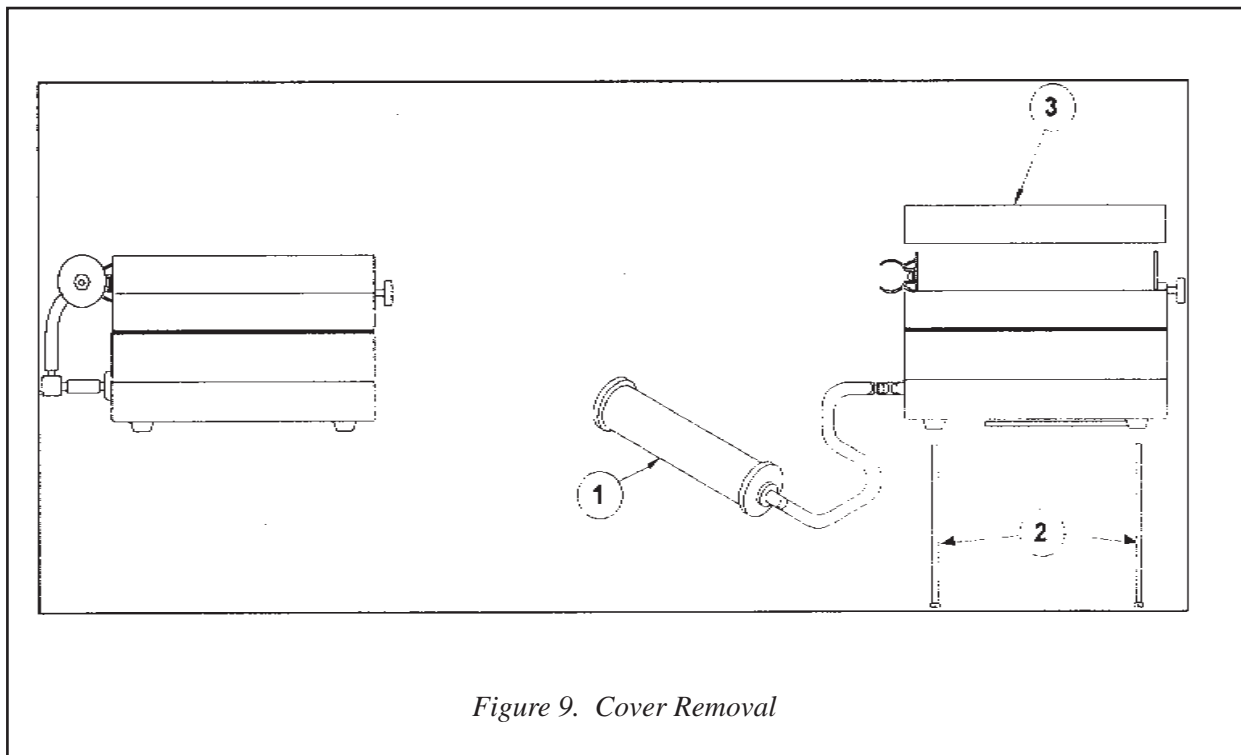

Figure 9. Cover Removal
Unplug the power cord from the rear of the Model CM2 *Plus*. (Refer to Figure 9) Remove the drying tube (1) from the back and set it on the table next to the unit. Turn the unit upside down. Remove the four screws (4) that are holding the cover. Turn the unit right-side up. Slide the cover (3) straight up and then off.